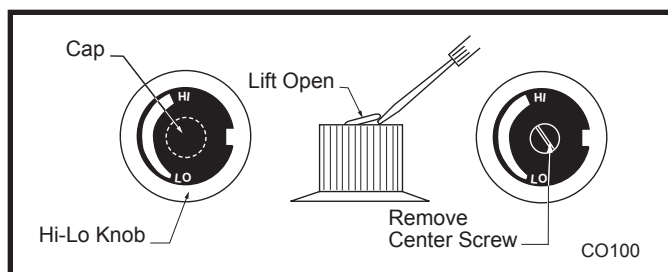

Fig. 59 Remove center screw from Hi-Lo knob.
3. Remove cap from HI/LO knob. This can be accomplished by lifting the plastic cap off the screw. (Fig. 59)
4. Remove the screw from center of HI/LO knob with small screwdriver turning counterclockwise. (Fig. 59)